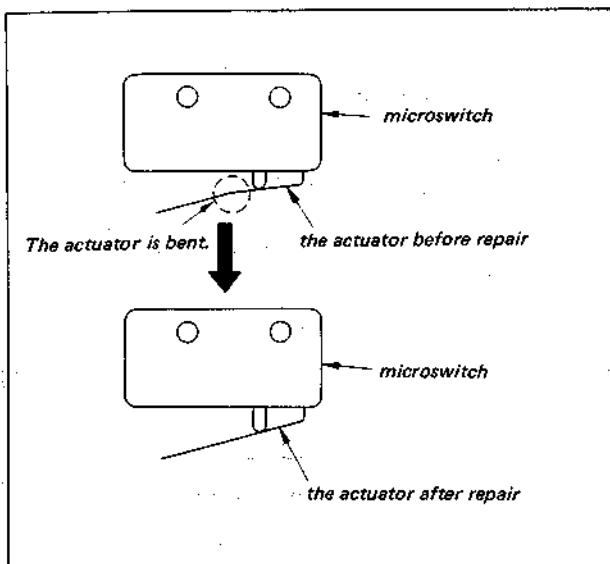

Fig. 3-28. Repair of the actuator
- 1) If the switch fails to come ON when a  $\phi 1.2$  pin is inserted, loosen small screw ① and adjust by turning a little at a time in the direction of arrow (B).
- 2) If the switch comes ON when a  $\phi 0.6$  pin is inserted, it is possible that the actuator is bent as shown in Fig. 3-28. Check it and straighten it out if necessary.